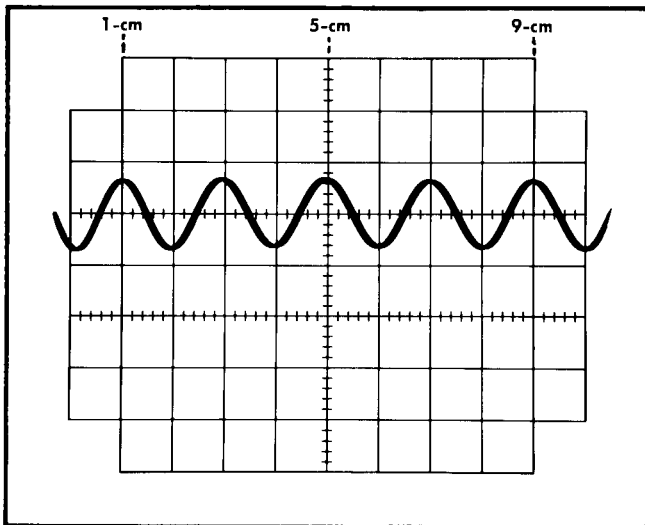

Fig. 5-8. Typical display, correct high speed sweep timing and linearity.
m. Check—One cycle/2 cm, Upper Beam display; 1-cm, 5-cm and 9-cm sine-wave peaks should coincide with their respective graticule vertical lines (see Fig. 5-8). Tolerance is $\pm 5\%$ or ± 4 mm.